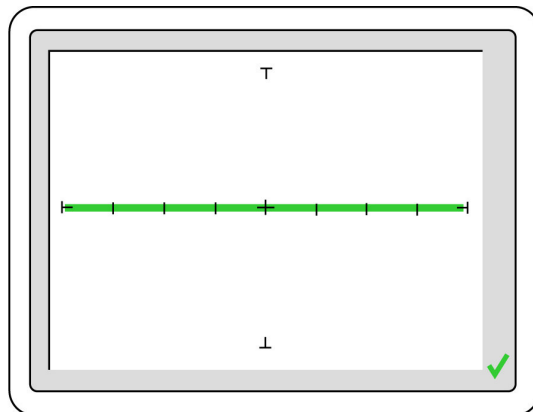

Figure 1-13 Tracker Display with Open Test Terminals.
1. Turn on the Tracker and observe the display. With nothing connected to its test terminals, the display trace is a horizontal line (that is, $R_L = \infty$) as shown in figure 1-13.